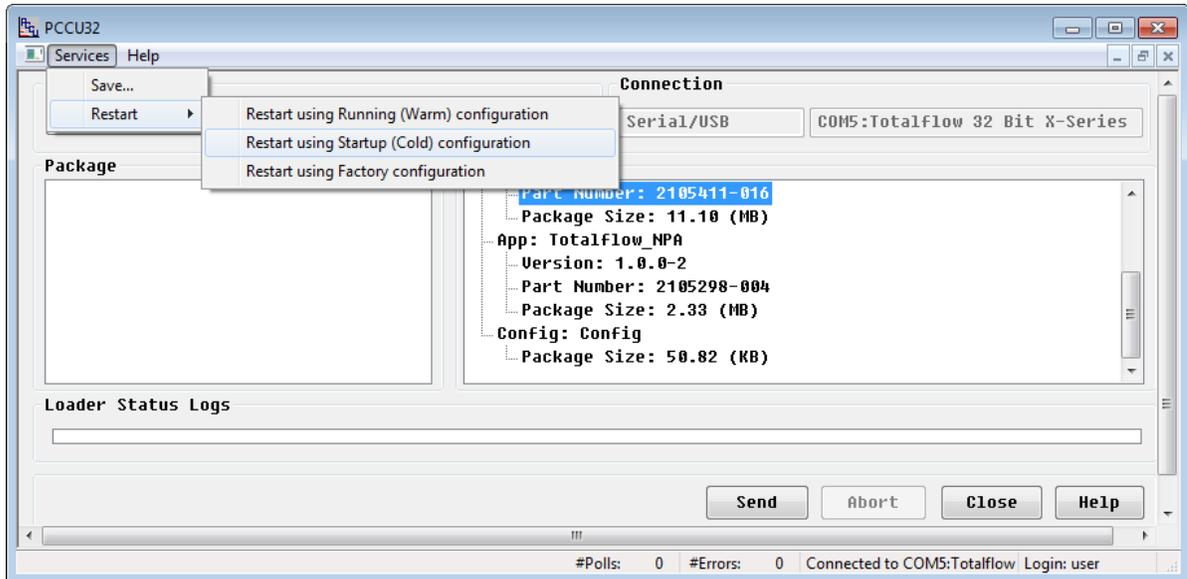

Figure 73: Cold restart using the device loader
6. Click **Services** in the menu bar and select **Restart > Restart using Startup (Cold) configuration** (Figure 73).